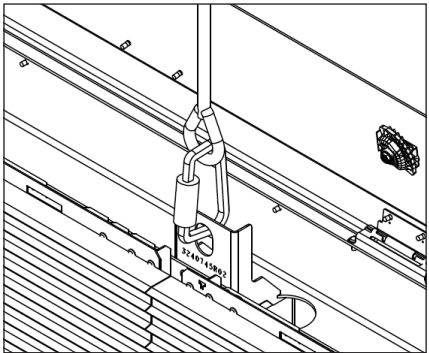
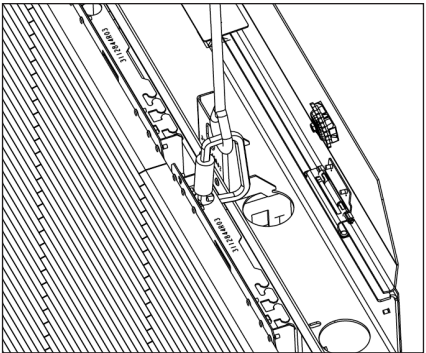

Figure 39: Lift Lug
Figure 40: Module Pan Handle
3. Clip one end of the module pan safety lanyard (HS-2057) supplied in the toolkit to the closest lift lug in the top perimeter and the other end into the SATA cable pass-through hole of the module pan in need of service. Refer to **Figure 39** and **Figure 40**.